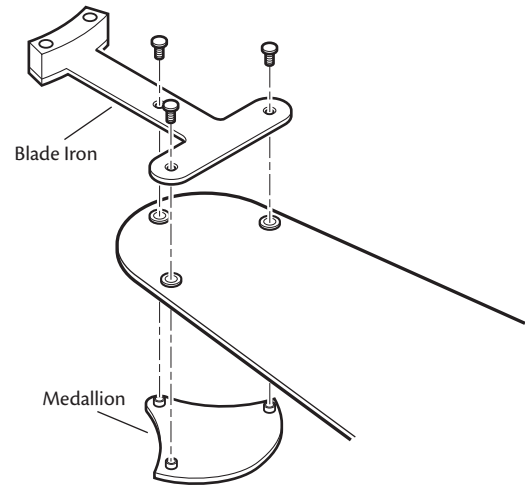

**Figure 8 - Inserting the grommets into the fan blades**
1. Your fan may include blade grommets. If your fan has grommets, insert them by hand into the holes on the blades as shown in Figure 8.